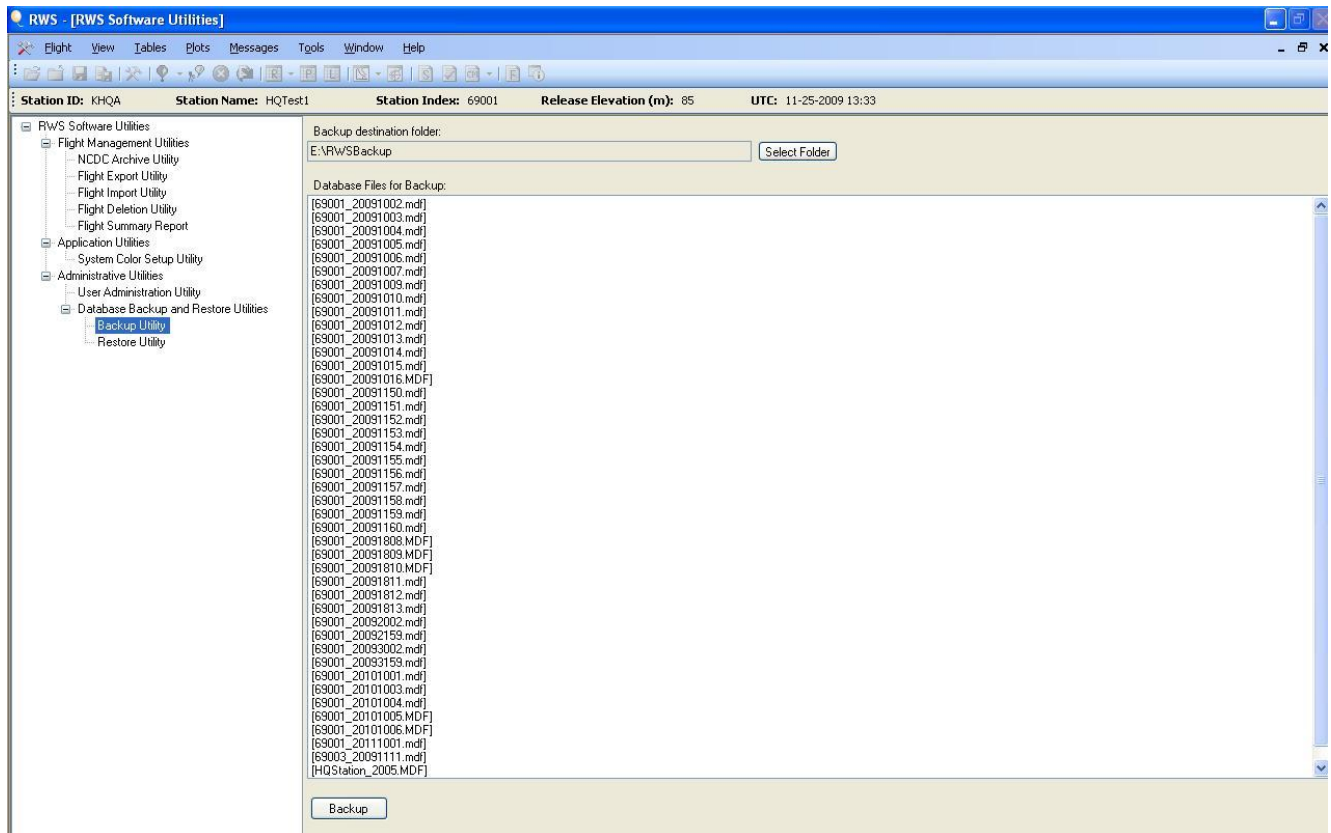

Figure A-2: RRS Backup, Version 2.1
6. For RWS Version 2.1, select **Database Backup and Restore Utilities** and **Backup Utility** from the *RWS Software Utilities* menu displayed on the left of the screen (Figure A-2). The *RWS Software Utilities* window is updated to display the backup destination folder and the database files for backup. By default, all database files are backed up.